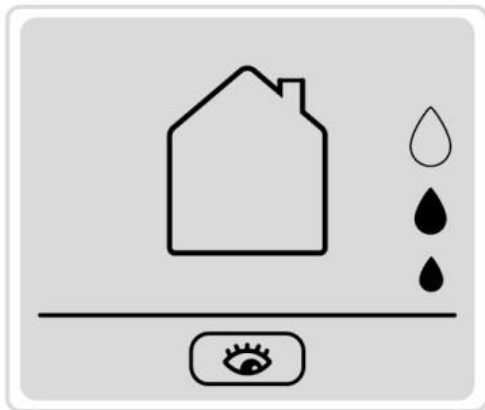

Figure 39
Figure 39 displays the Surveillance Mode icon as it appears on the remote control screen, allowing users to visually confirm the correct mode is selected during setup.
In this mode, the **HUMIDITY (H)** button becomes active, allowing you to select the desired humidity threshold. Figure 39 also serves as a helpful reference for identifying the Surveillance Mode symbol and its associated standby behaviour.